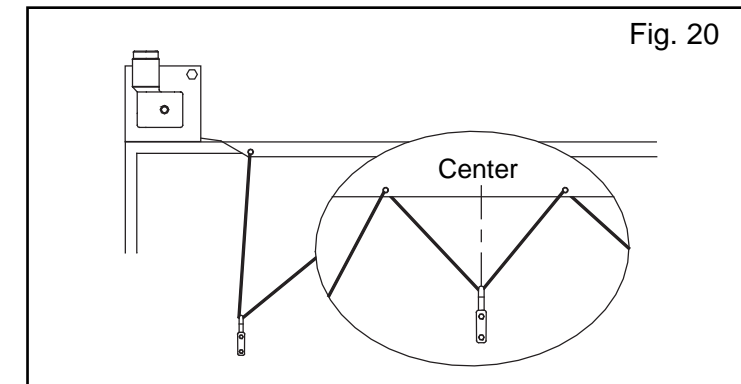

Fig. 20
- Position middle hook between tie downs (Fig.20).